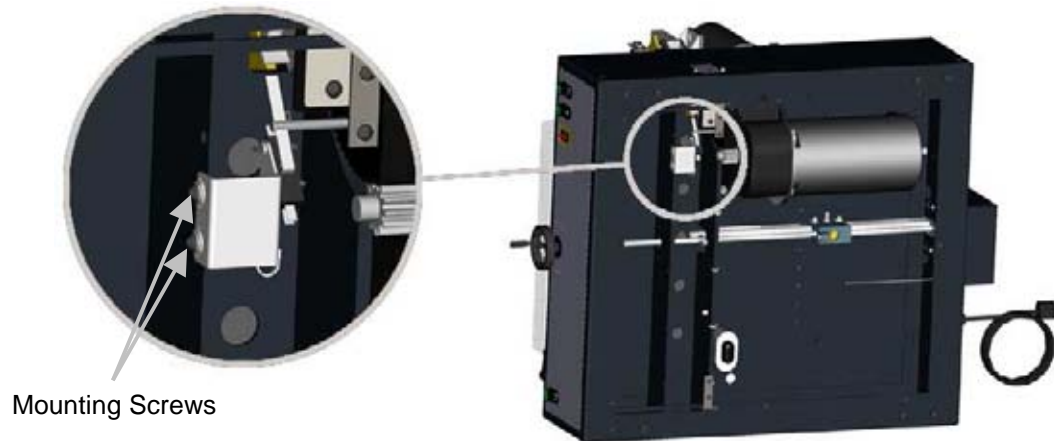

Figure 19
4. Loosen bracket mounting screws (Figure 19), and slide bracket such that mounting screws become located in the center of the slots. Then tighten screws, and check to make sure screws mounting switch are tight also.